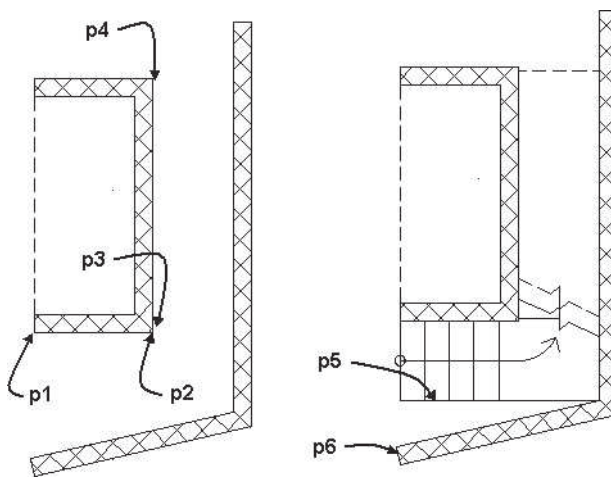

FIGURE 9.28 Creating and modifying a multi-landing stair
Flight start point or: (Choose the wall at **p1** as shown in Figure 9.28 using the Endpoint object snap.)
Flight endpoint or: (Choose the wall at **p2** as shown in Figure 9.28 using the Endpoint object snap. Toggle OFF Object Snap in the Application status bar.)
Flight start point or: (Move the cursor up from **p2**, type 1 [1] ENTER in the dynamic input with the polar tracking vector angle of 90° to specify **p3** as shown in Figure 9.28.)
Flight endpoint or: (Toggle ON Object Snap in the Application status bar and choose the wall at **p4** as shown in Figure 9.28 using the Endpoint object snap.)
5. Select the stair and choose Project from the **Customize Edge** flyout menu in the Modify panel of the Stair contextual tab. Refer to Figure 9.28 and respond to the workspace prompts as follows: